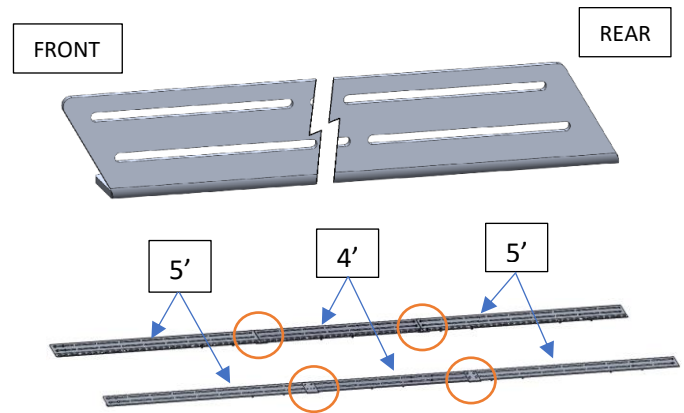
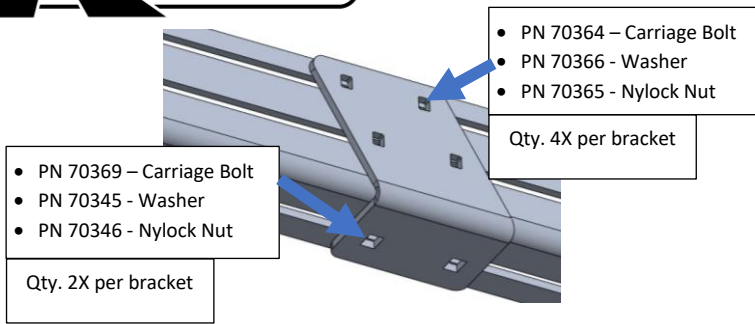

Figure 1: Side Rail Subassembly
Figure 2: Side Rail Bracket Hardware Installation
- Using the associated carriage bolts and side rail brackets, connect the front and rear side rails together. Reference Figure 1 & Figure 2 for more detail. Repeat for both driver and passenger sides.